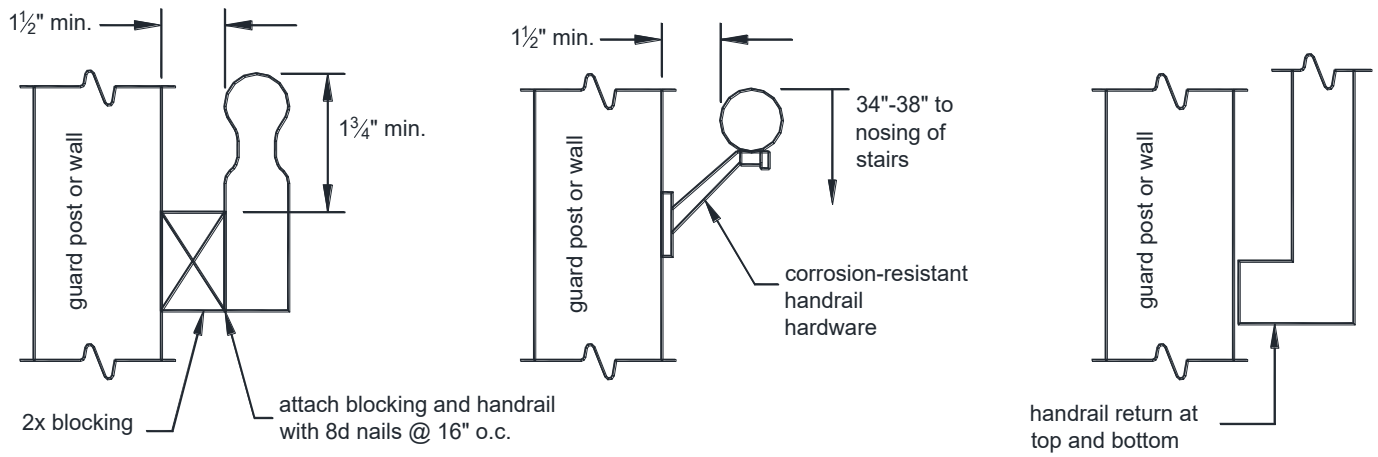

FIGURE 21: HANDRAILS
- Handrails shall be attached to a stair guard or exterior wall acting as a barrier as shown in see FIGURE 21.